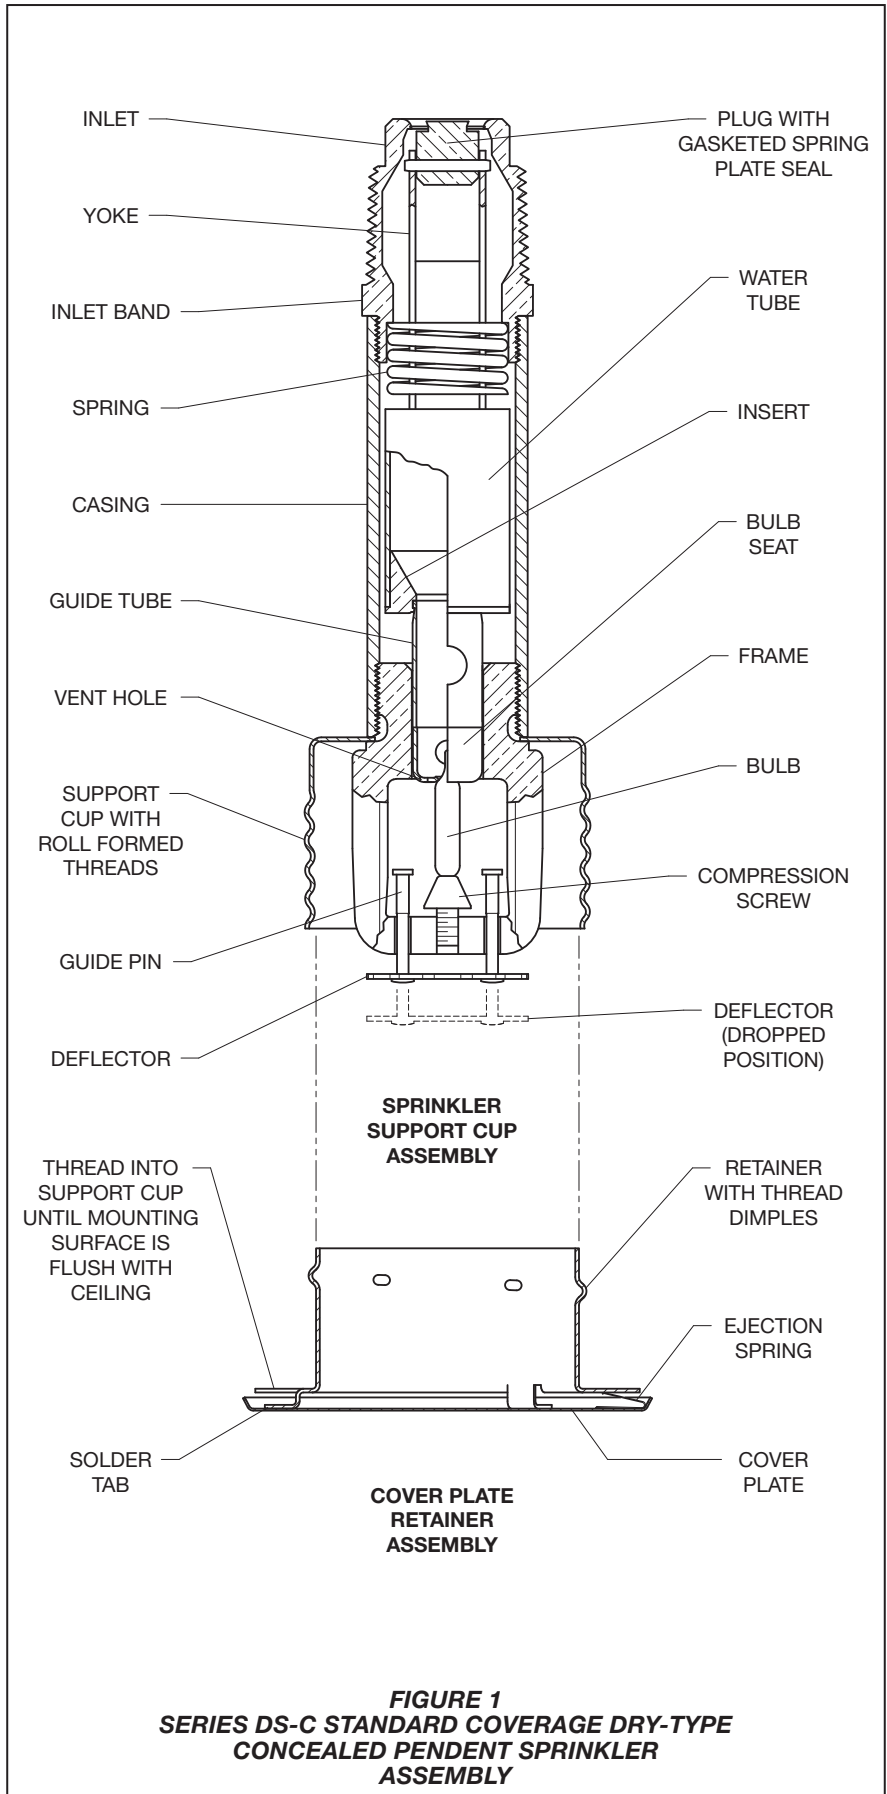

FIGURE 1
When TYCO Series DS-C Dry Type Concealed Pendent Sprinklers is in service, water is prevented from entering the assembly by the Plug with Gasketed Spring Plate Seal (Figure 1) in the Inlet of the Sprinkler.
- a pipe wrench on the Inlet Band or the Casing (Figure 1).
A Vent Hole is provided in the Bulb Seat (Figure 1) to indicate if the Dry Sprinkler is remaining dry. Evidence of leakage from the Vent Hole indicate potential leakage past the Inlet seal and the need to remove the sprinkler to determine the cause of leakage; for example, an improper installation or an ice plug. Close the fire protection system control valve and the system drain before removing the sprinkler.